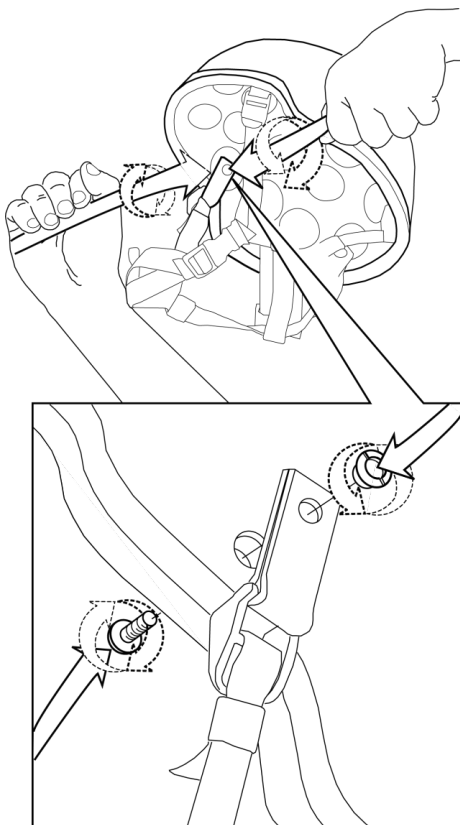

Figure 1. Hardware Installation (Universal Retention System Shown).
2. Tighten the screws as shown in Figure 1.